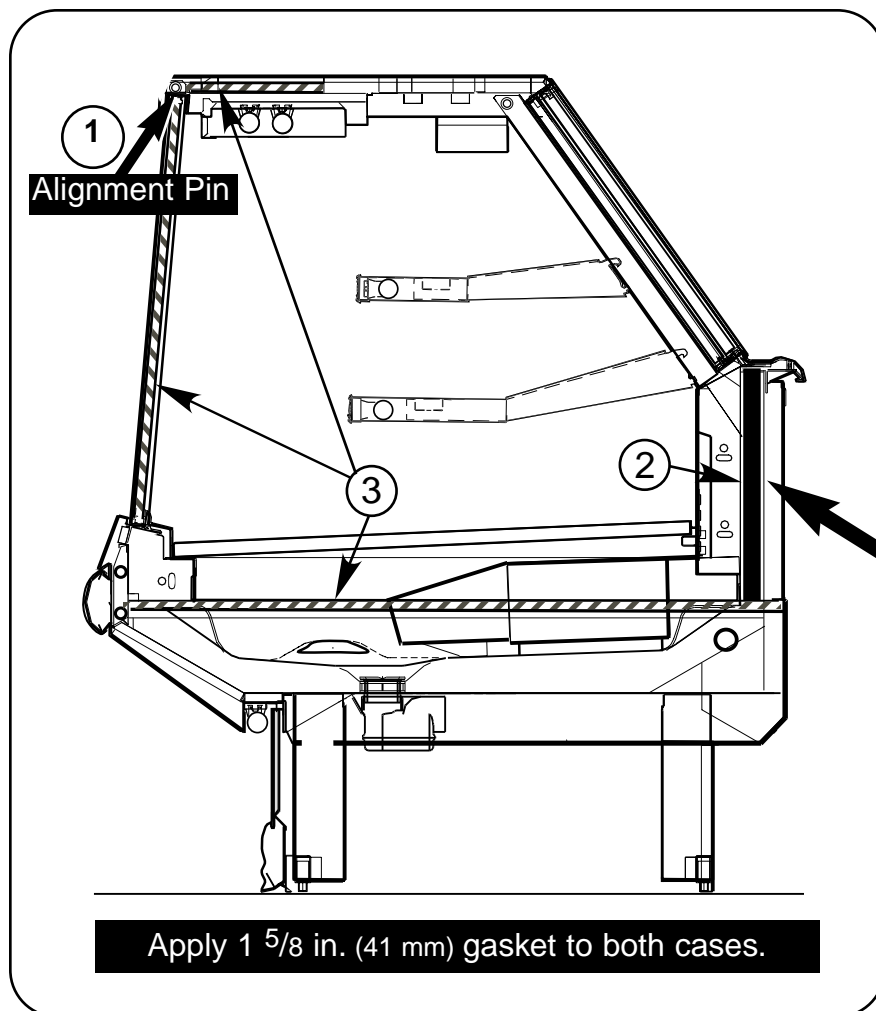

Figure 3. Applying 1 5/8 in. and 1/2 in. Gaskets to the Merchandiser
SEE FIGURE 3, DETAIL A.
- 3** Apply 1/2 in. (13 mm) **Gasket (Item – 3)** to the horizontal recess across the bottom and on the edge of the glass. See Figure 3, Detail A.